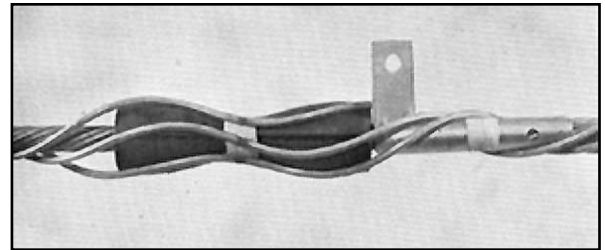

FIGURE 7
- 3.04** Apply the second rod on the opposite side of the short leg of the current transfer tab so that the tab extends through the gap between the two rods. Apply remaining rods at equal intervals and snap ends into place. (Figure 7)